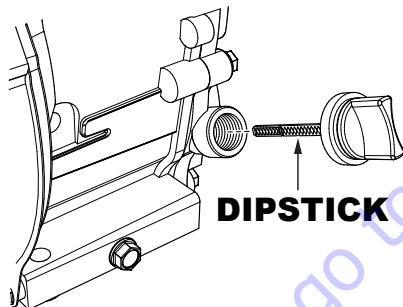

Figure 5. Engine Oil Level
2. Remove the filler dipstick from the engine oil filler hole (Figure 5) and wipe clean.